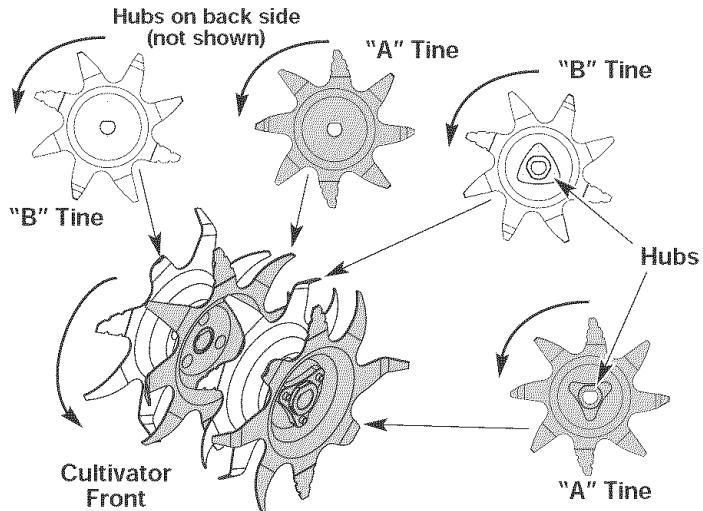

Fig. 12b
4. When you are reinstalling tines, lay out the tines and compare them to those shown in Figure 12b. Note specifics about each tine: its hub, curvature and lettering ("A" or "B"). This will help make sure that you are placing the correct tines in the correct order.
NOTE: If you look closely, you can see a slight curvature in the tine tips. These curves should point toward the front of the cultivator when the tines are installed. Figure 12b shows the curve in each tine.